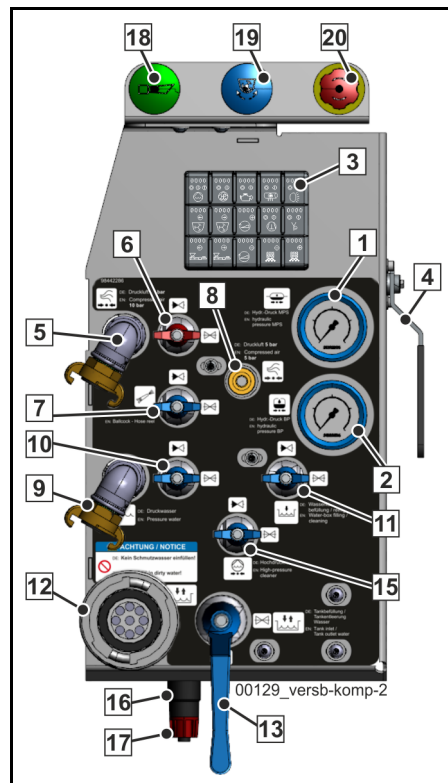

Fig. 302 Pressure gauge for concrete pump
The indicator on the concrete pump pressure gauge (2) on the rear of the machine (Fig. 302) must increase to the value set for the pressure cut-off.